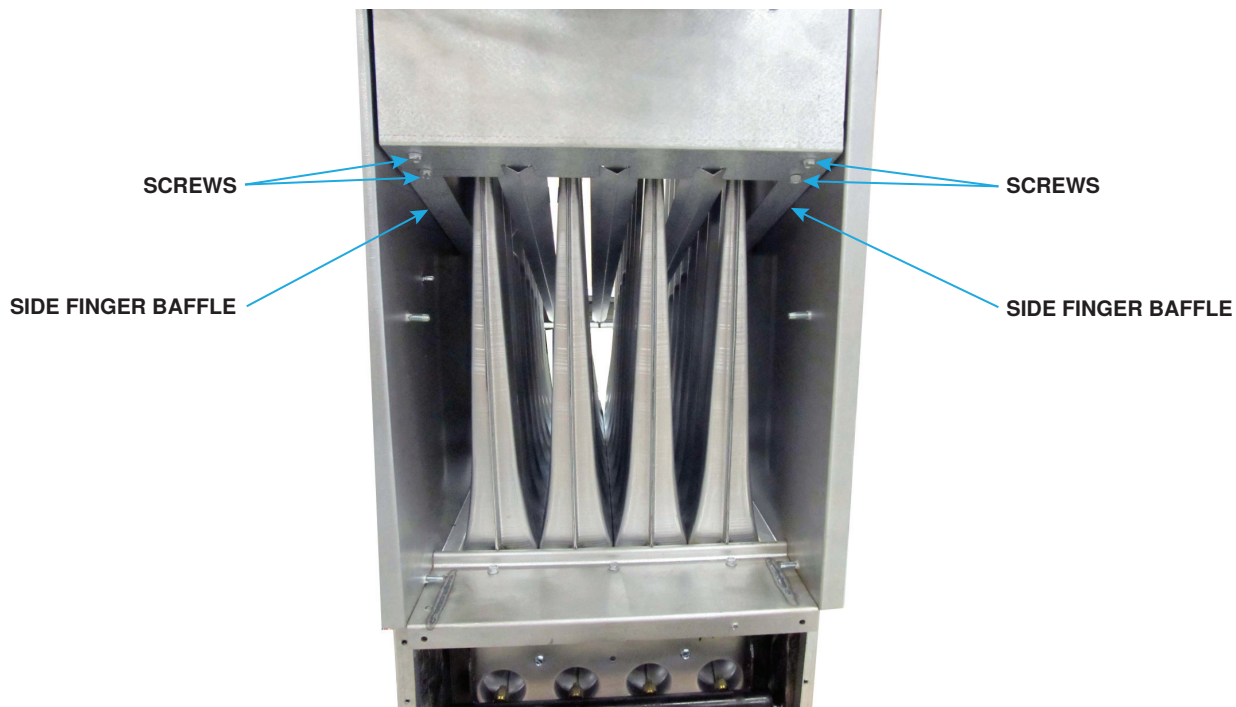

Figure 3. Side Finger Baffle Removal
4. Remove side finger baffles on unit sizes 125–400 (see Figure 3):